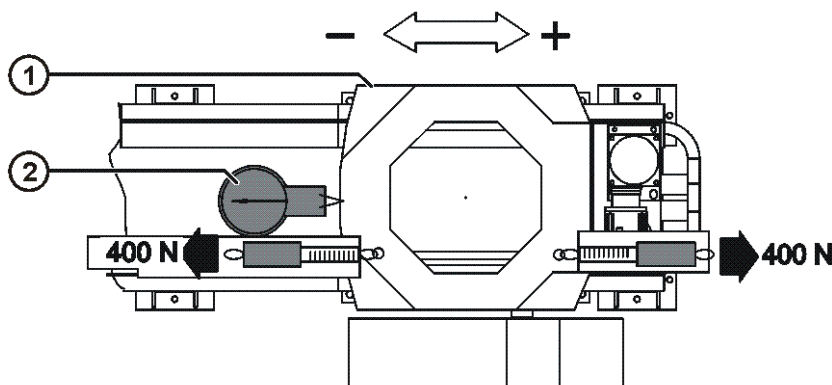

Fig. 10-3: Measuring device (schematic)
1. Fasten the dial gauge (>>> Fig. 10-3) to the beam so that the probe is in contact with the carriage.